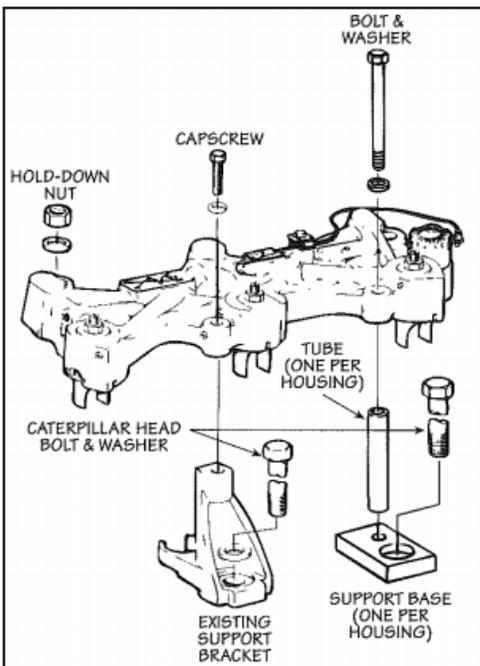

Fig. 1
Engine brake installations may have one or two housing support brackets (or bases) per housing (see Fig. 1). The use of different style housing supports for any engine is permissible.
3. Install the nuts, capscrews and washers as shown in Fig. 1.
5. Torque the capscrews in the supports to the torques shown in Fig. 1.